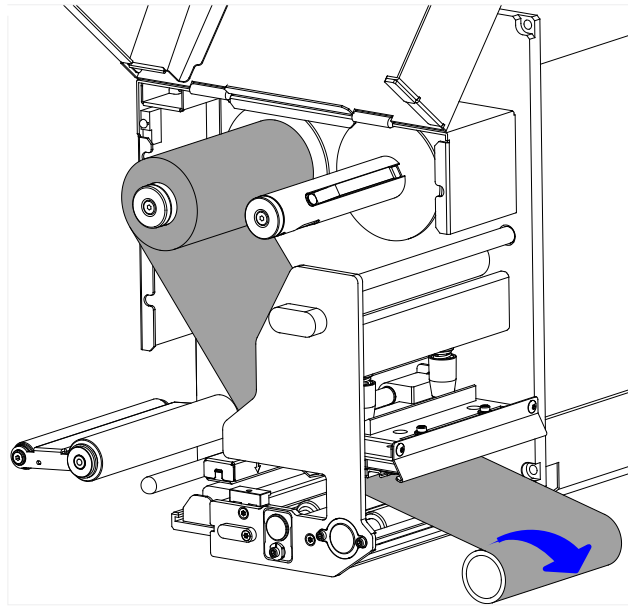

Figure 2-17 Wrap Ribbon on the Core
6. Wrap the ribbon around a spare ribbon core to form a Ribbon Take-up Roll. See Figure 2-17.